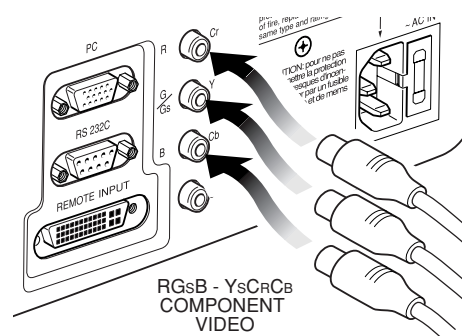

Fig. 22
This input is suitable for a RGB video signal, or for a Component (YCrCb) type, with composite synchronisation on the green signal (RGB) or on the luminance (Y) signal (YsCrCb) through a cable with RCA/Phono type connector (Fig. 22).